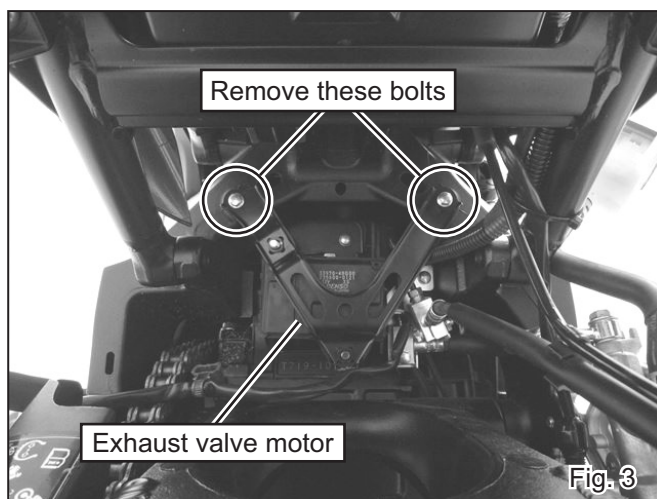

Fig. 3
- 5) Disconnect exhaust valve coupler and then remove exhaust valve motor. (See Fig. 3)